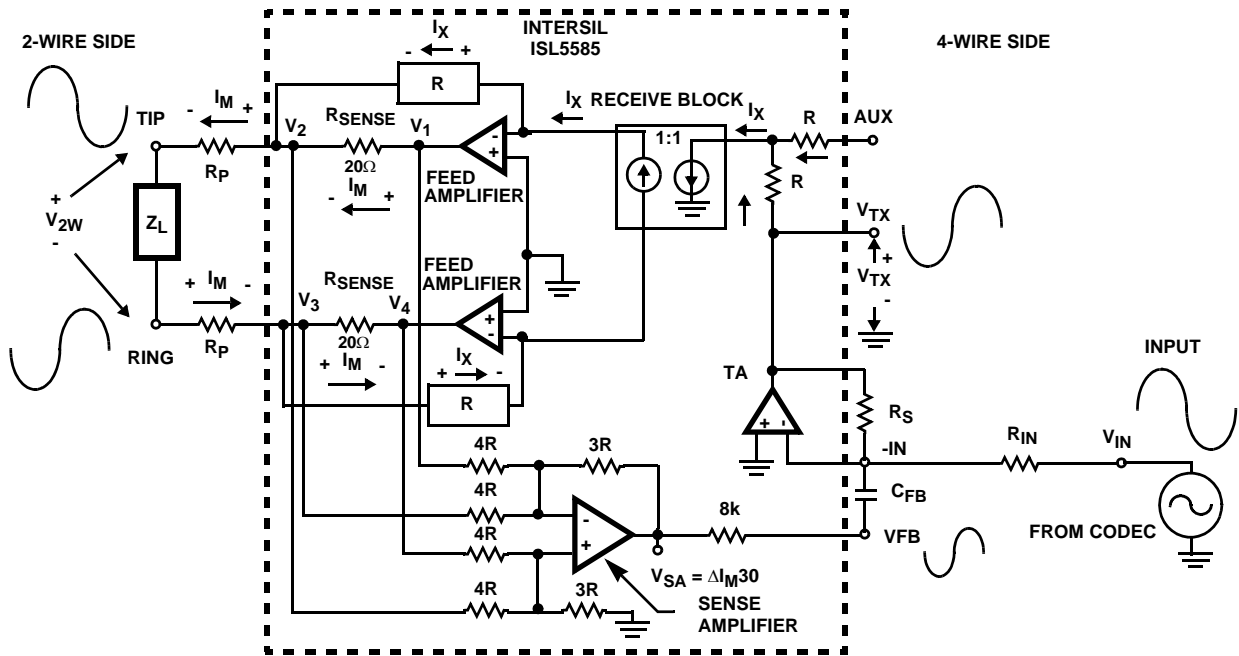

FIGURE 6. 4-WIRE TO 2-WIRE SIGNAL PHASE ACROSS THE ISL5585
Figure 6 illustrates the phase of the input signal across the ISL5585 when the signal is applied at the -IN pin of the ISL5585 through the R_{IN} resistor. The Transmit Amplifier (TA) inverts the signal 180 degrees at the VTX pin. The feedback around the tip amplifier inverts the signal again on the tip lead. The input signal will cause AC loop current to flow through the 20Ω sense resistors in the direction from V1 to V2 and V3 to V4. This results in an inverted signal (referenced from tip) on the VSA and thus the VFB pin. This out of phase signal is the signal used by the feedback path to match the line impedance of the 2-wire side.